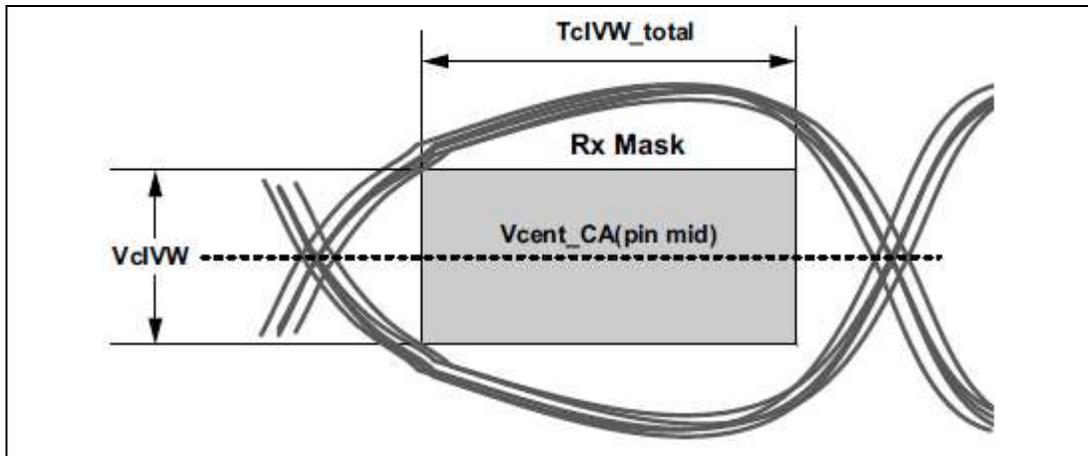

Figure 166 – CA Receiver (Rx) Mask
The command and address(CA) including CS input receiver compliance mask for voltage and timing is shown in Figure 166. All CA, CS signals apply the same compliance mask and operate in single data rate mode.